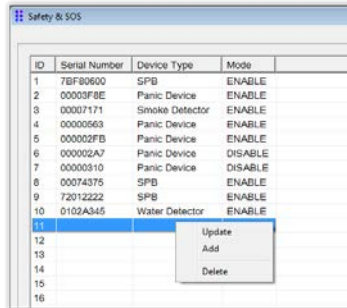
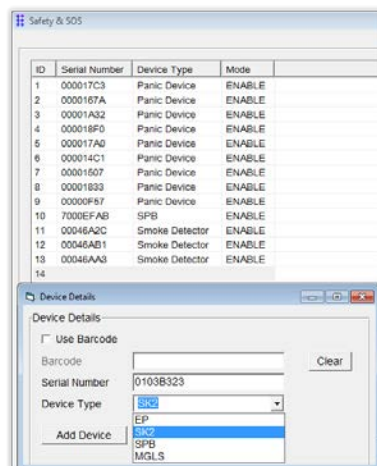

Figure 65: Functions to Manage the Safety or SOS Devices
Figure 66: Add Safety or SOS Device
Figure 65 above and Figure 66 below illustrate how to add a new safety or emergency device to the Safety & SOS device table.
1. Right-click on an empty row in the safety & SOS device list. A window appears displaying the functions available to manage the list, as shown in Figure 65 above.
2. Click **Add**. The **Device Details** window appears, as shown in Figure 66 above.